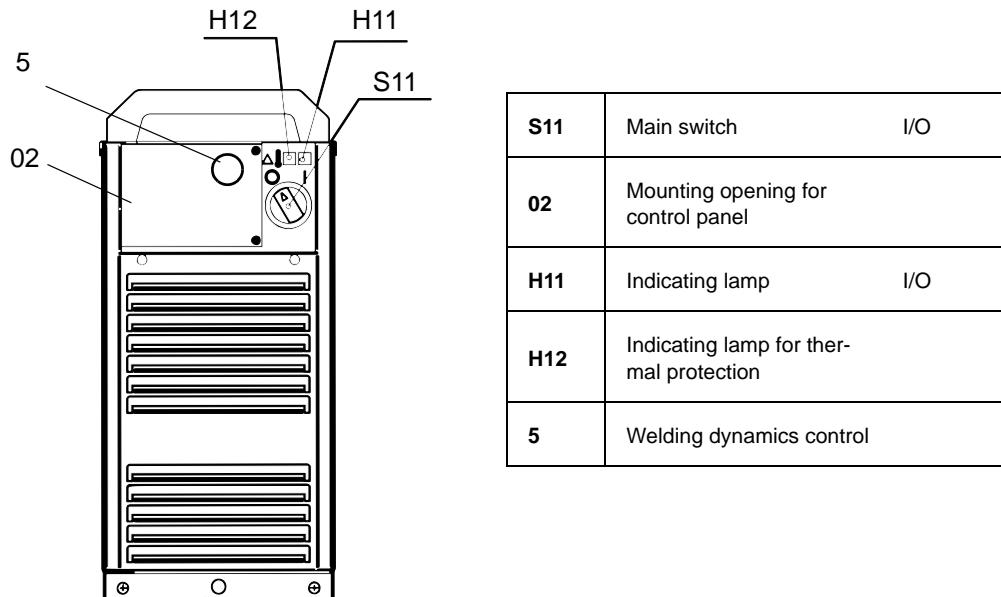

Figure 1. Power source RPB 320, front
4.3.5 Control of welding dynamics (fig. 1)